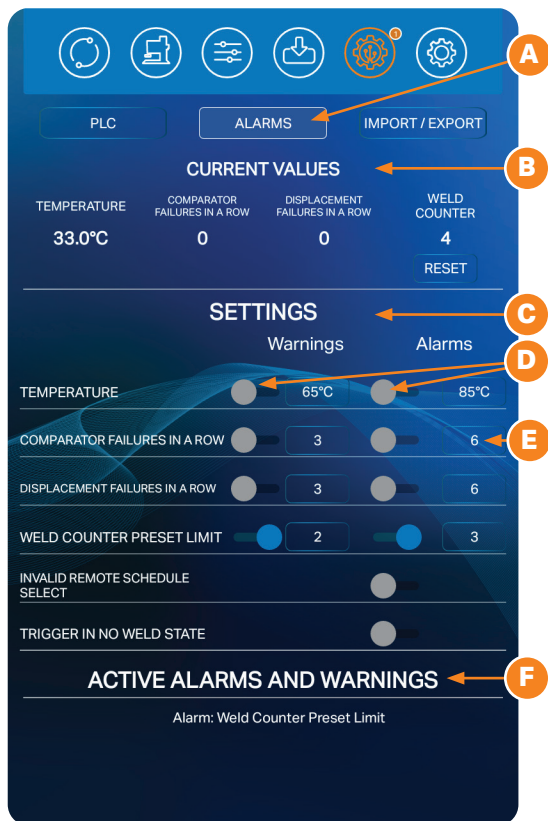

Figure 26.1. The Pico alarms control panel will display certain power supply statuses, active warnings, active alarms, and other alarm-related settings.
To access the Pico alarms control panel, press the Alarms Button (A) in the Communications Screen, as shown in Figure 26.1. The Alarms control panel will display certain power supply statuses, active warnings, active alarms, and other alarm-related settings.